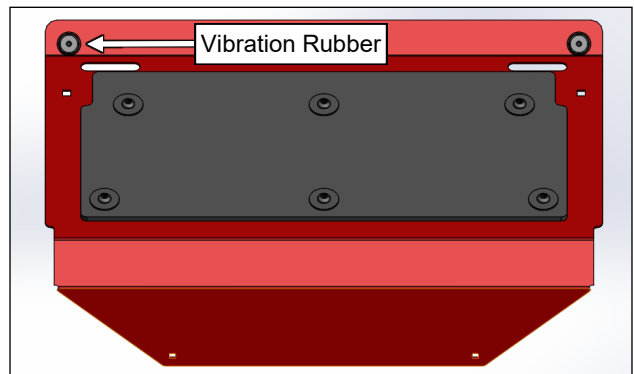

Fig. 2.1.4 (New Floorboard)
- 2.1.4 See fig. 2.1.4. Remove the perforated floorboard from the vehicle. Remove both vibration rubber stoppers from the old floorboard and install them on to the new floorboard found in the hardware box.